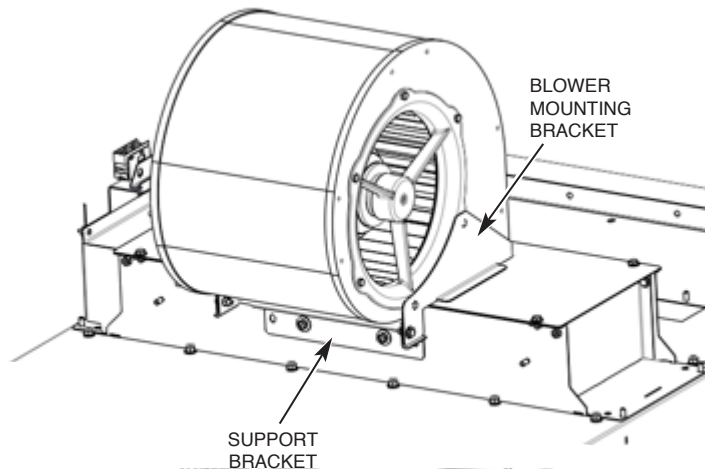

Fig. 23
3. Lower the back side of the blower assembly down so that the holes in the blower mounting brackets line up with the holes in the support brackets on the heater housing (Fig. 23).
4. Install ¼-20 hex head cap screws with washers and stop nuts as shown in Fig. 23 and tighten.